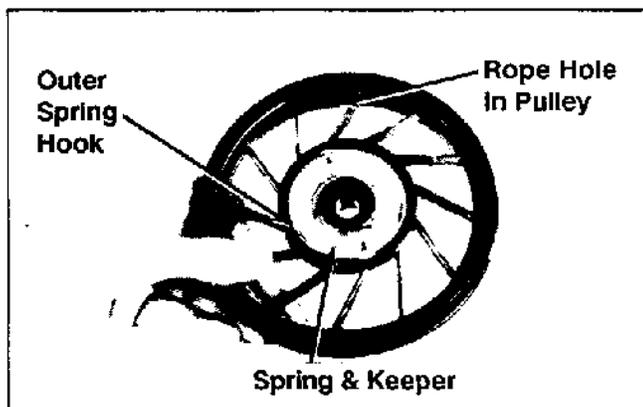

Figure 7-8. Position Of Spring And Keeper In Pulley.
8. Note the position of the spring and keeper assembly in the pulley. See Figure 7-8.
1. Make sure the spring is well lubricated with grease. Place the spring and keeper assembly inside the pulley (with spring towards pulley). See Figure 7-8.